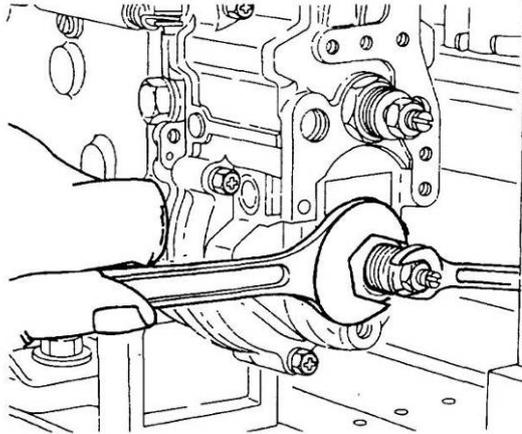

Figure 122 Adjustment of the Outer Idling Spring
- i. Increase the pump speed to 220 rpm and install the idling spring capsule together with a new gasket. Screw the capsule in until the control rack is at about 9.5 mm (Figure 122). The outer idling spring is now set. Torque the idling capsule locknut to 18 to 22 N.m (13 to 16 lbf.ft).